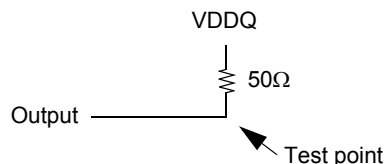

Figure 3 : Pulldown slew rate test load
- b. Pulldown slew rate is measured under the test conditions shown in Figure 3.